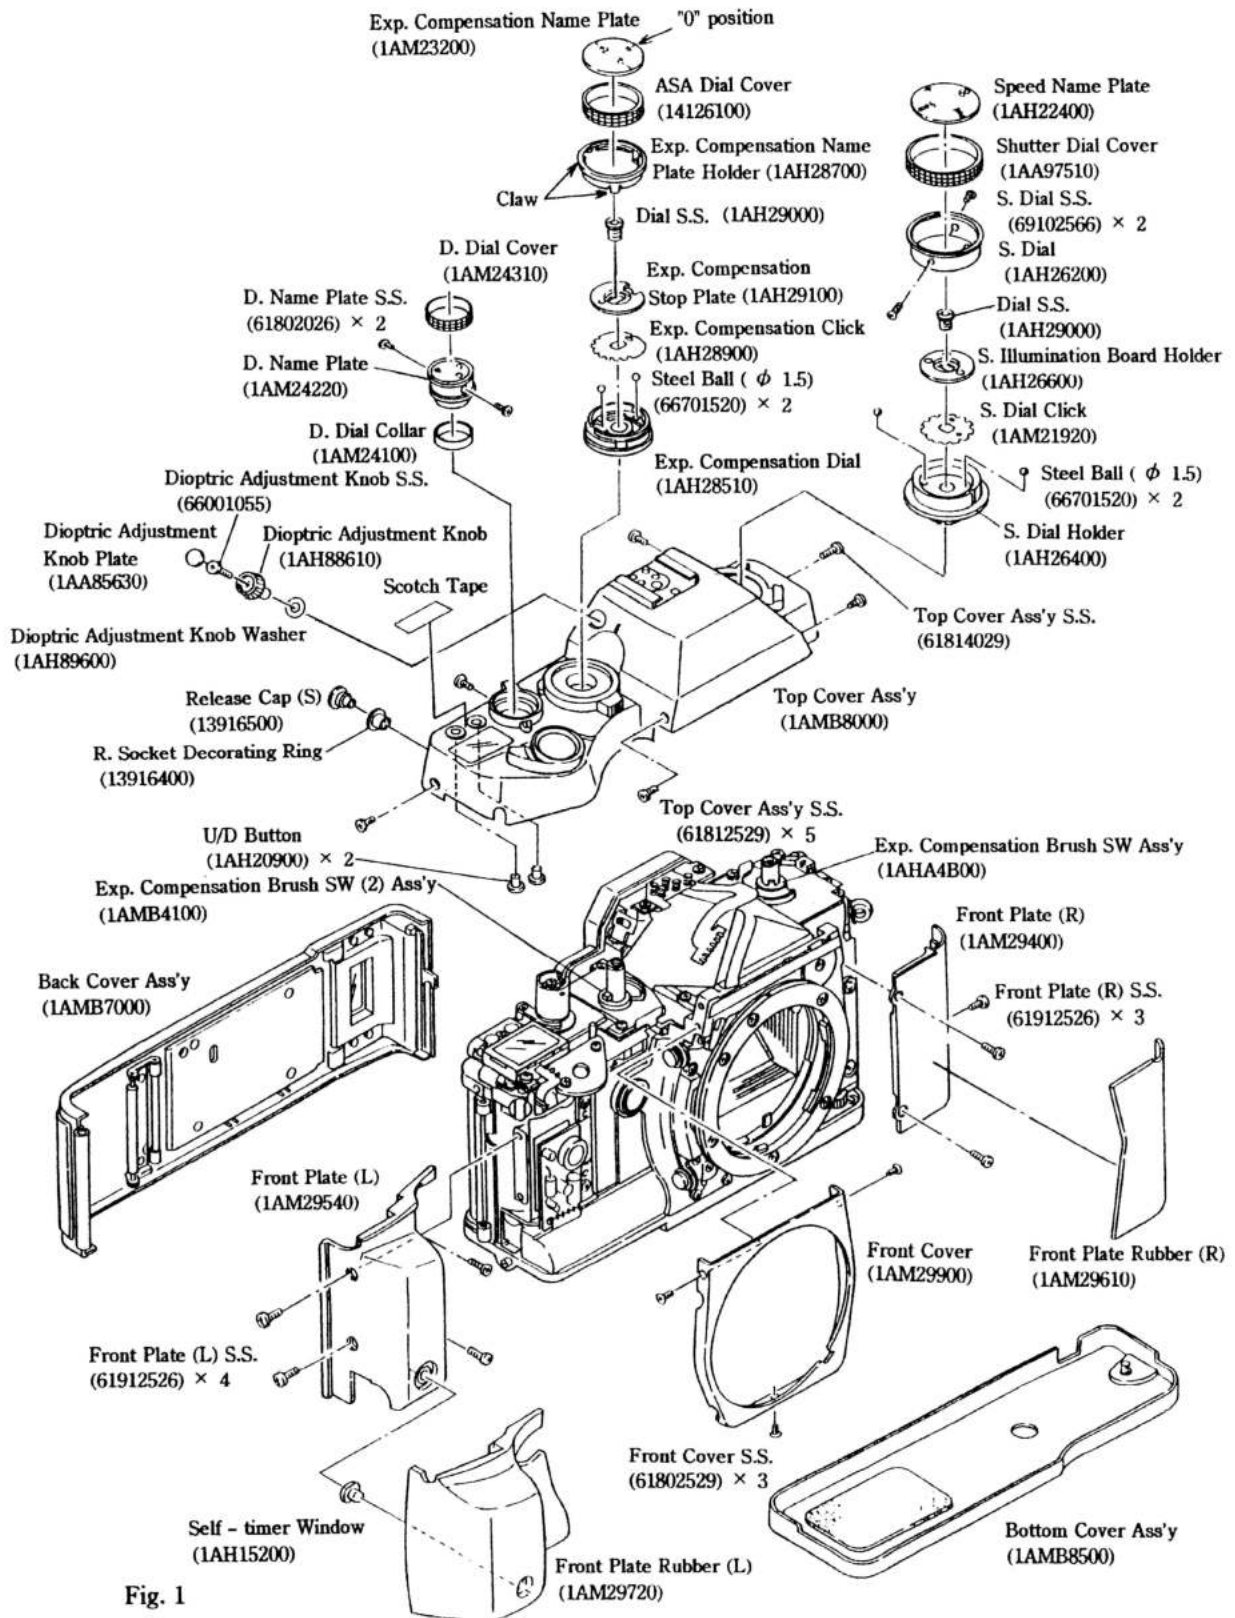

Fig. 1
11) Remove the Release Cap (S) (13916500) and R. Socket Decorating Ring (13916400).
12) Stick the Scotch Tape to the U/D Button (1AH20900) \times 2. (See Fig. 1)
Notes: a) After the removal of the Top Cover Ass'y, you can take off the Exp. Compensation Brush SW Ass'y (1AHA4B00) and Exp. Compensation Brush SW (2) Ass'y (1AMB4100). (See Fig. 1)